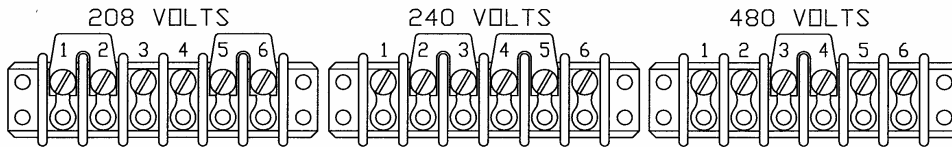

FIGURE 9.2.1A A.C. VOLTAGE SELECTOR BLOCKS
If the charger is to be operated on a different rated input voltage than the ordered value, follow the voltage changeover instructions described below (FIGURES 9.2.1A and 9.2.1B.) or the label inside the charger door.
- Locate the Terminal Block with Jumpers (one Terminal Block per phase) and the label describing the various voltage/jumper configurations. (Refer to FIGURE 9.2.1A or B). The Terminal Block with Jumpers is located on the Ferroresonant Transformer.